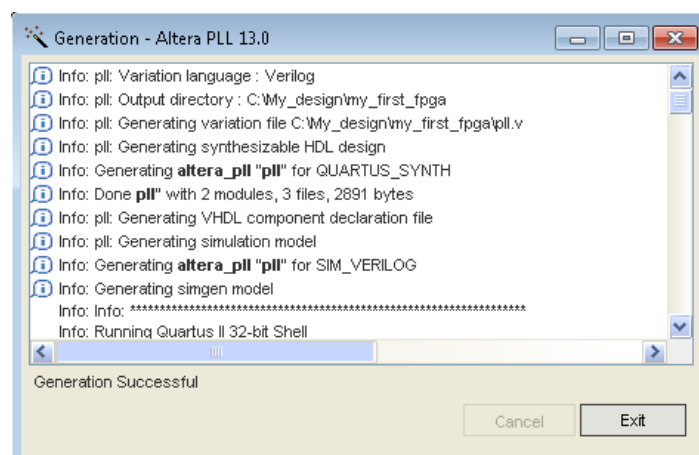

Figure 3-13 PLL Generation
- Click Finish . It leads to **Figure 3-13**. Click Exit.